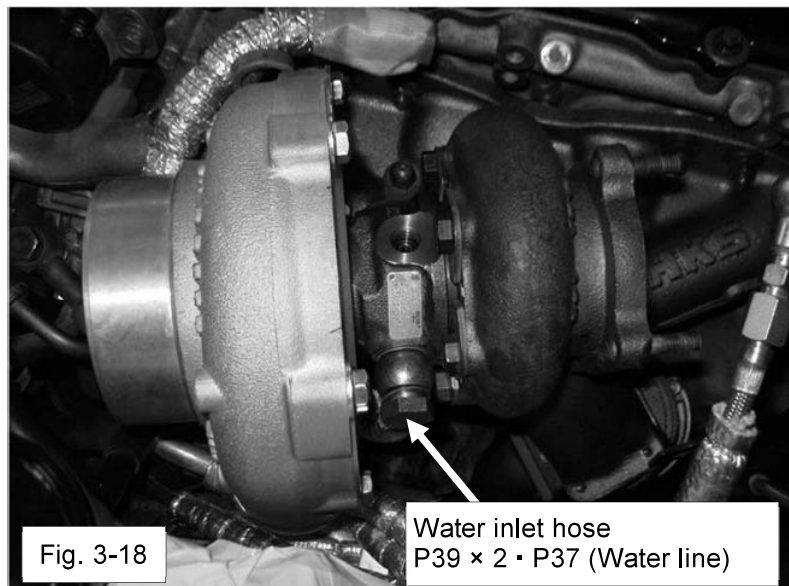

Fig. 3-18
(18) Attach the water inlet hose to the turbocharger body. (Fig. 3-18)